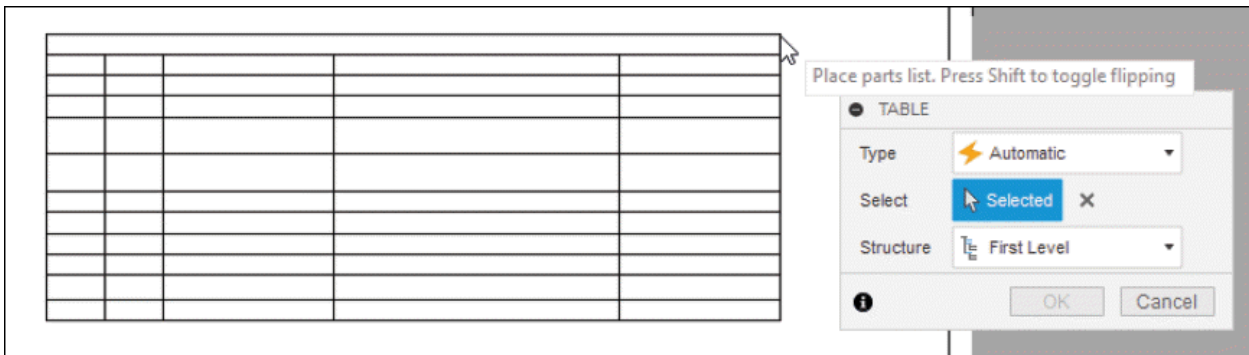

Figure-159. TABLE dialog box along with empty table
- Click on the **Table** tool from **TABLES** drop-down in the **Toolbar**. The **TABLE** dialog box will be displayed along with attached empty table; refer to Figure-159.